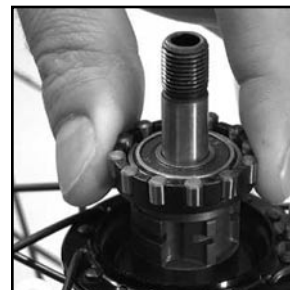

Fig. 8G
10. Slide the roller bearing retainer over the hub bearing and into the housing (Fig. 8G). Be careful not to dislodge any roller bearings.